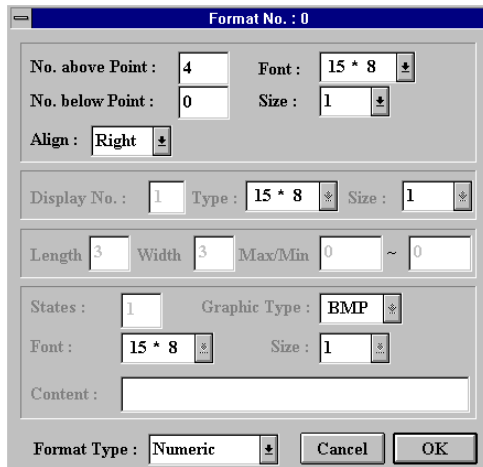

Fig. 4-3: Format Dialog
- 3) Click on the **Setting** button to create a format option dialog as shown in Fig. 4-3.